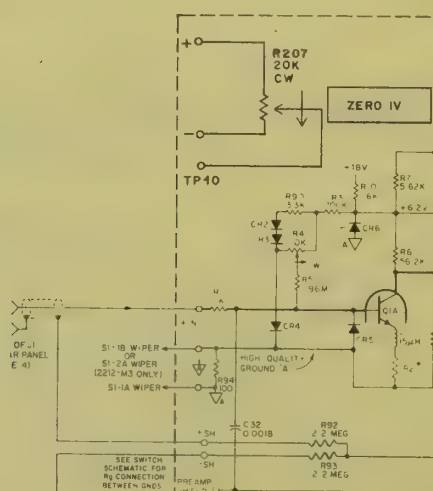

Figure US-8. Adding R207 to Preamplifier Assembly A2 Schematic
- 14 Page 5-7: Add R207 (ZERO 1V) to Figure 5-4 as shown in Figure US-8.